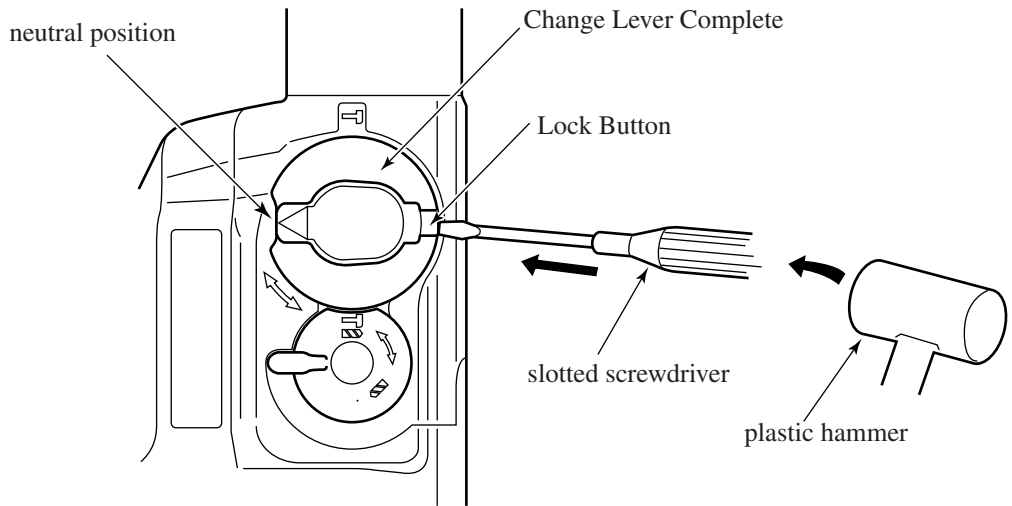

Figure 1
1. Set Change Lever Complete at neutral position, and insert a slotted screwdriver into the back of Lock Button. And slightly hit the screwdriver with a plastic hammer to remove it. (See Fig.1.)